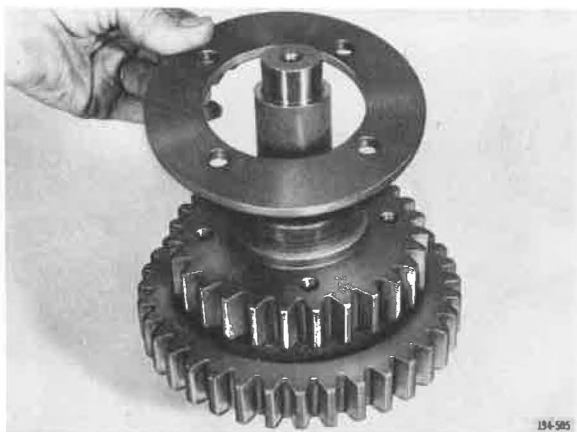

Figure 366. Installing Washers
1. Install the gear retaining thrust washers loosely on each of the front compound countershafts. See Figure 366.